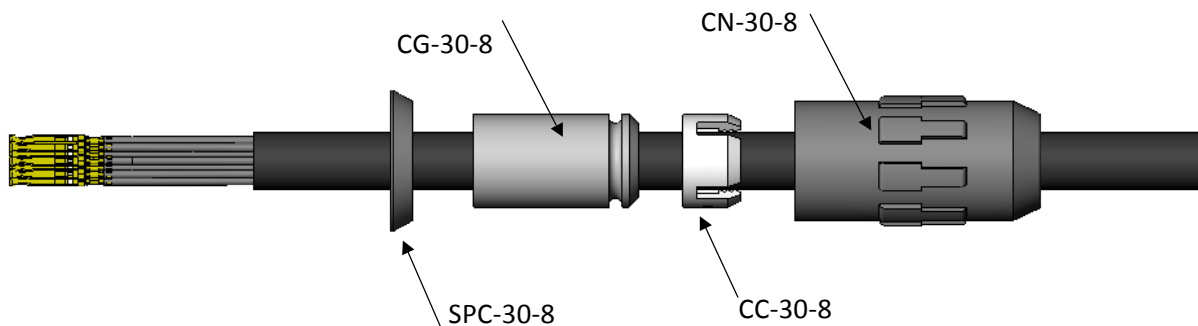

FIG 9
3. Samtec recommends applying Loctite 7649 primer to the internal threads of CN-30-8. Slide SPC-30-8, CG-30-8, CC-30-8, and CN-30-8 components on the cable as shown in FIG 9.